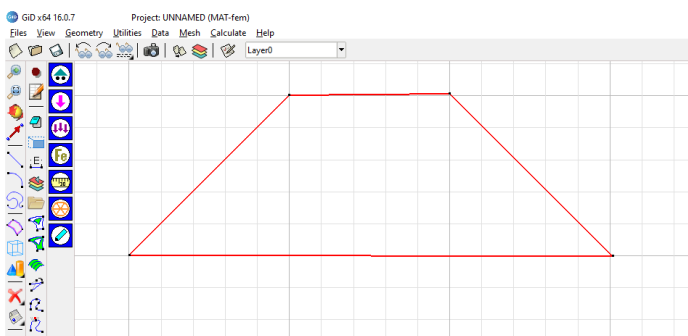
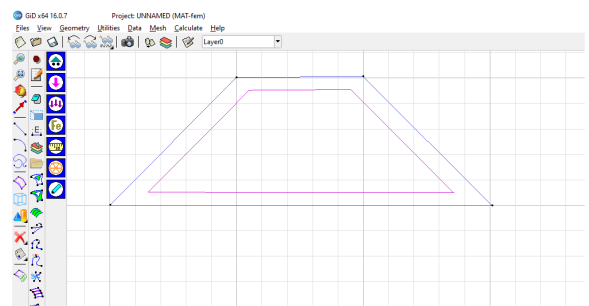

Fig. 19 - Selecting lines to make surface.
Fig. 20 - Generated surface.
2. Click the **Create NURBS surface**  button, select the geometry (Fig. 19); press **Esc** to confirm and check the created surface (Fig. 20).